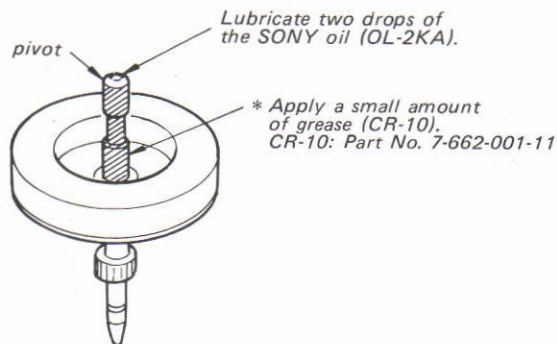

Fig. 5-2
- and apply grease to the parts marked by \* in Fig. 5-2.